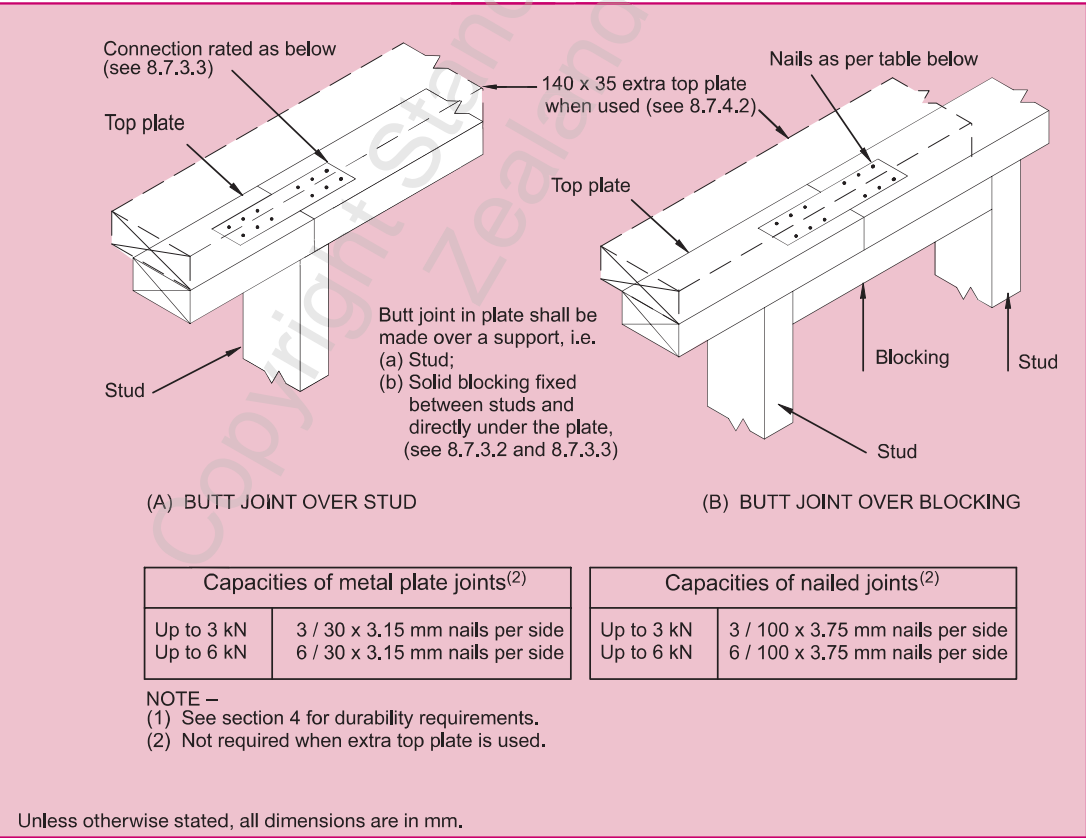

Figure 8.15 – Connecting top plates in line – Walls containing bracing (see 8.7.3.3)
- (a) Bracing capacity not exceeding 100 bracing units: A 3 kN connection as shown in figure 8.15;
- (b) Bracing capacity exceeding 100 bracing units: A 6 kN connection as shown in figure 8.15.
- (c) Wall top plates to which ceiling diaphragms are attached: A 6 kN connection as shown in figure 8.15